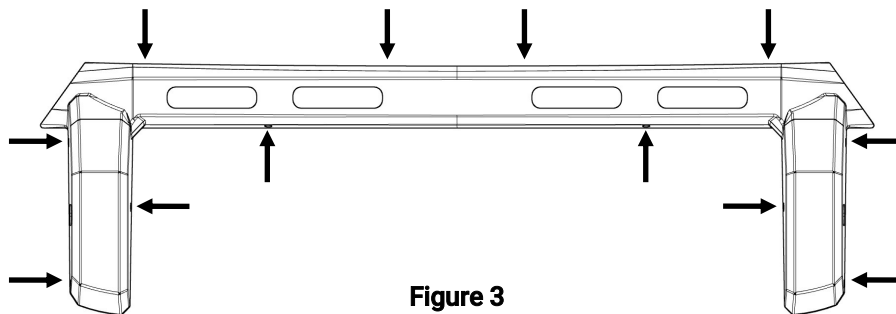

Figure 3
- C. Prepare the (12) 8-32 X 5/8" button head fasteners [3X624] at the front of the vehicle.
- E. Install the (12) button head screws [3X624] using a 3/32" hex key. There are (8) locations around the outside of the Command Grille® and (4) on the inside (Fig. 3).